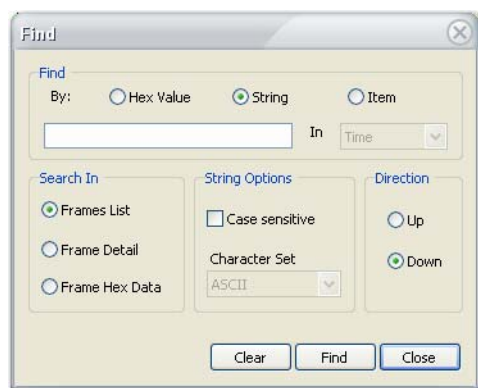

Figure 15-56: Finding a packet
- 2) From the menubar, click . The Find dialog box appears. See Figure 15-56.